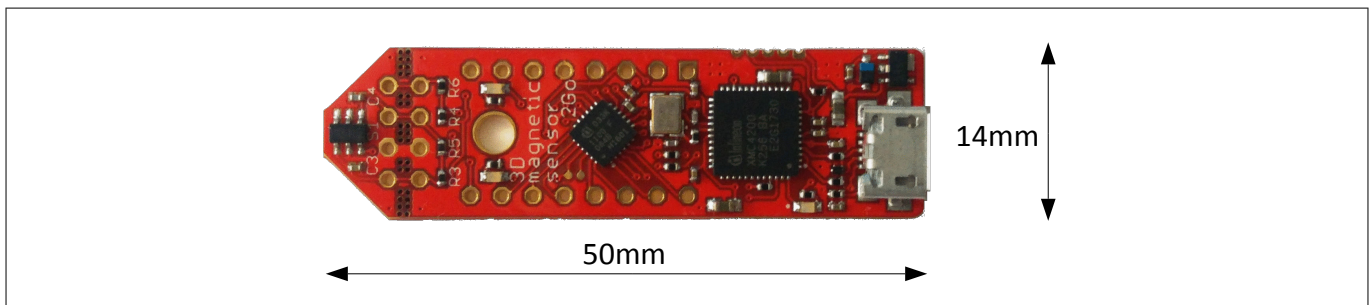

Figure 1 3D Magnetic Sensor 2 Go EvalBoard
- The 3D evaluation board (EvalBoard) as shown in **Figure 1**, a ready-to-use printed circuit board (PCB) with the 3D Hall sensor. The EvalBoard is based on the XMC2Go-Kit. More technical documents and detailed description can be found at <http://www.infineon.com/xmc2go>.